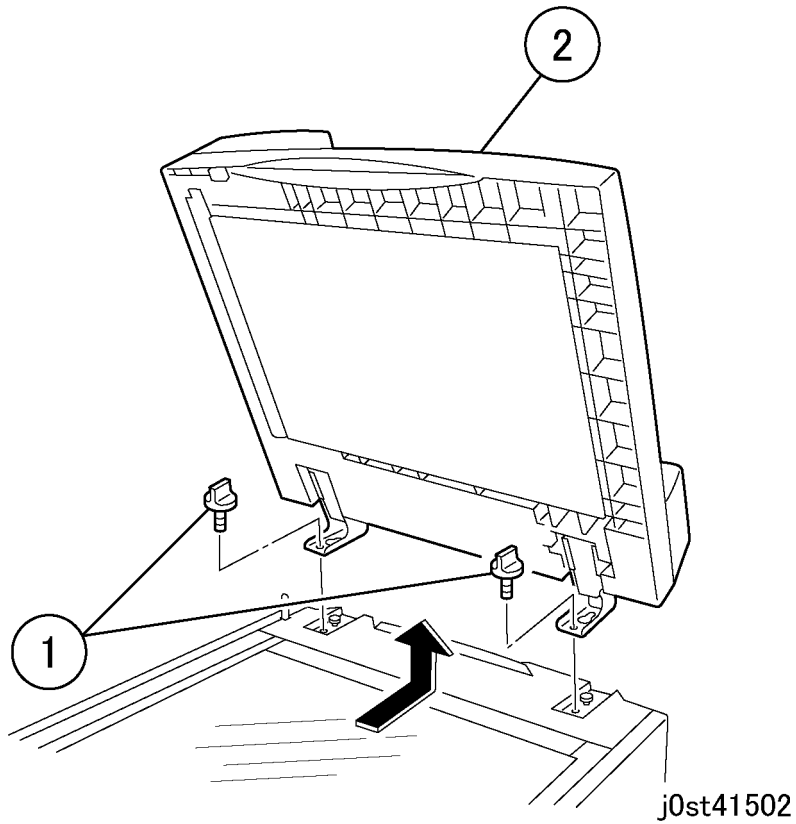

Figure 2 Removing the DADF (j0st41502)
2. Remove the DADF. (Figure 2)